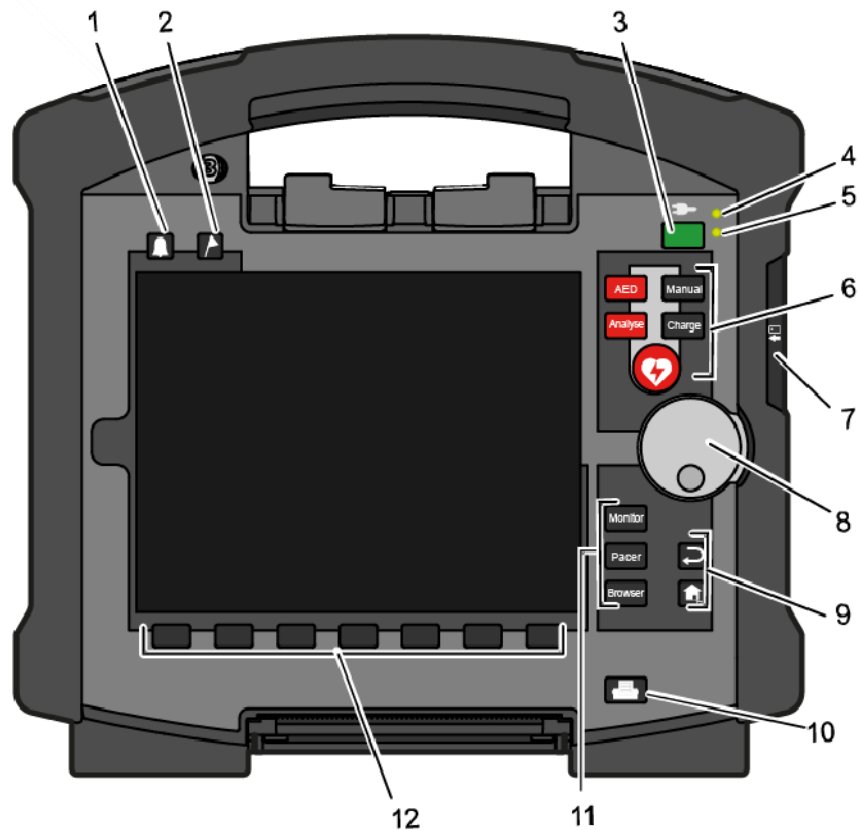

Fig. 4-1 Monitoring unit, operating elements and LEDs
**Operating mode keys** The different operating modes are selected by pressing the following keys (Fig. 4-1, item 11):
The function keys **Back** and **Home** (Fig. 4-1, item 9) are used to control the device:
Pressing the **Print** key (Fig. 4-1, item 10) starts the real-time printout of the curves. Pressing the **Print** key again interrupts every running print job (log, D-ECG, real-time printing).
The softkeys (Fig. 4-1, item 12) are assigned different functions, depending on the current operating mode or selected dialogue. The current function is displayed in the softkey line.
By pressing the **Alarm** key (Fig. 4-1, item 1), the alarm history of all physiological and technical alarms is called up. All the alarms which have occurred appear in this list with their time of occurrence.
If the **Event** key (Fig. 4-1, item 2) is pressed briefly, a time stamp is saved which marks the current ECG data and parameter values. Based on this marking, this data can subsequently be located in the data memory, viewed and assessed. The message **Event recorded** appears in the message line.